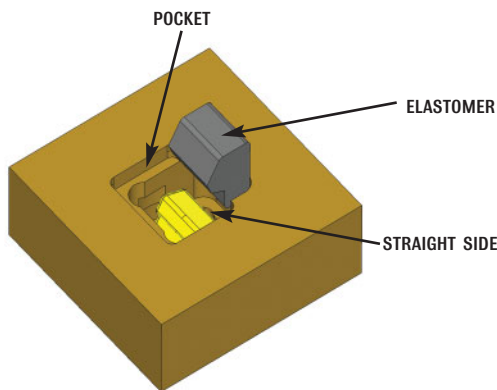

FIGURE 2 INSERT THE ELASTOMER WITH THE THIN END ON THE STRAIGHT SIDE OF THE CONTACT.
3. Install the elastomer on the straight side of the first contact; the thin end fits between the contact and the insert, or contactor housing wall, and the wider portion rests on the first contact, FIGURES 2 AND 3.